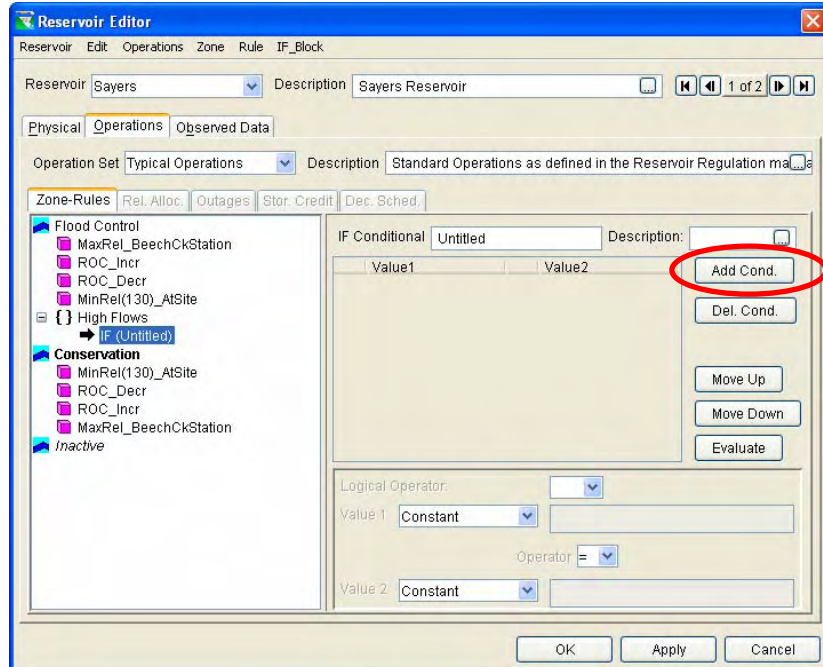

Figure 11.62 Conditional Test Editor (Add Conditions to IF_Blocks)
2. When you select the **IF (Untitled)** element of the **IF_Block** in the operations tree of the reservoir editor, a multi-pane “Conditional Test” Editor will display (Figure 11.62) where you will add conditional test blocks to contain the operation rules.